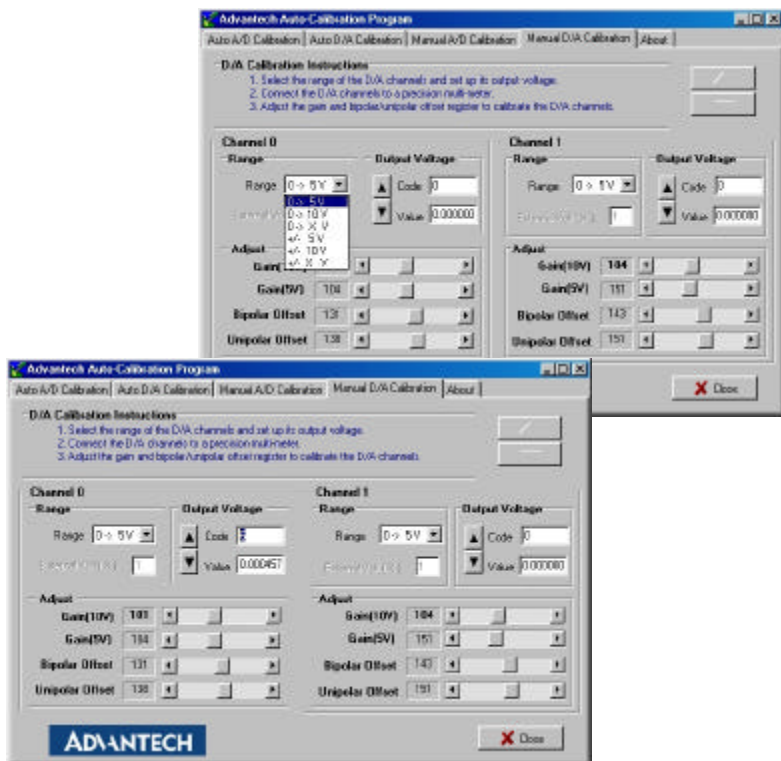

Fig. 5-17 & Fig. 5-18 Selecting D/A Range and Choosing Output Voltage
Step 2: For example, choose channel 0; select the Range and select the wished output voltage code or value from the radio buttons (Fig. 5-17 and Fig. 5-18).